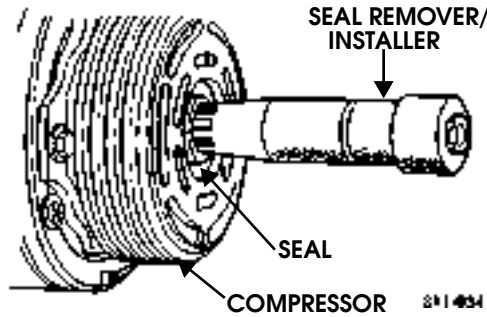

Figure 11-43: Seal Remover
3. Fully engage the knurled tangs of seal remover/installer into recessed portion of seal by turning handle clockwise. Remove seal from the compressor with a rotary-pulling motion. Discard seal (Figure 11-43).